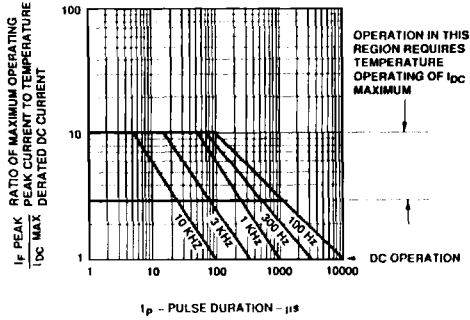

Figure 7. Maximum Tolerable Peak Current vs. Pulse Duration - Her, Orange.
5. See Figure 7 to establish pulsed conditions.